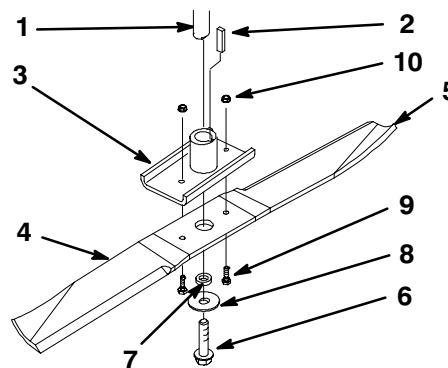

Figure 46
Hold the blade end using a rag or thickly-padded glove. Remove the retainer bolt with its washer and spacer, and the shear bolts and locknuts from the blade retainer (Fig. 46).
1. Position the blade onto the blade retainer and secure with shear bolts and locknuts (Fig. 46).
3. Install the key in the retainer. Install the blade, spacer, washer, and retainer bolt to spindle (Fig. 46).